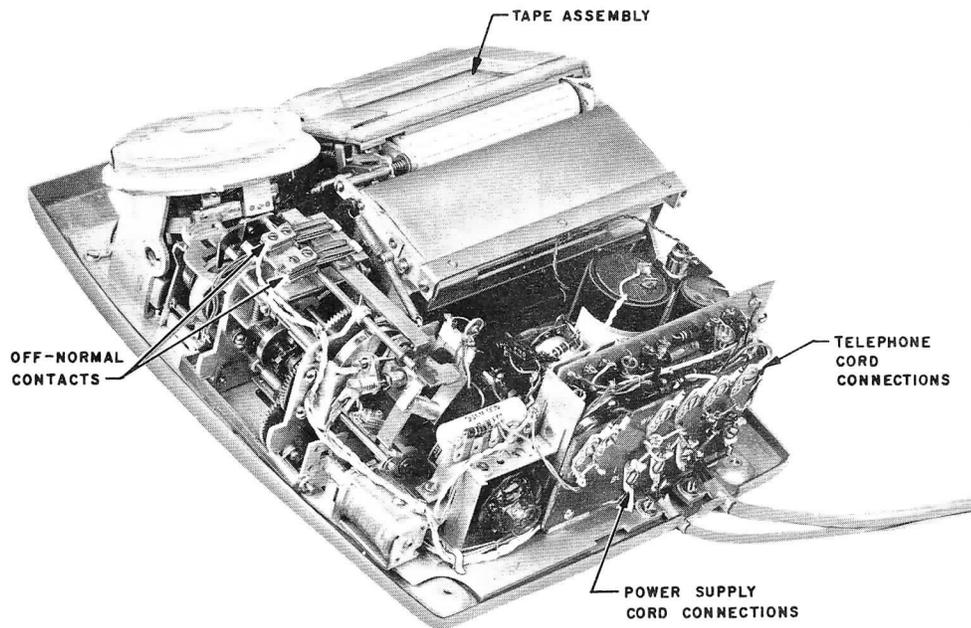

Fig. 5 - KS-16844 Rapidual (Housing Removed)
- Carton 1 (Fig. 5)
5.02 Two sets of off-normal contacts (Fig. 5, 7, and 8) are provided. Their function is the same as the off-
- Voltage between terminals 2 and 1, and 2 and 3 on terminal strip in Rapidial with voltmeter (Fig. 5).